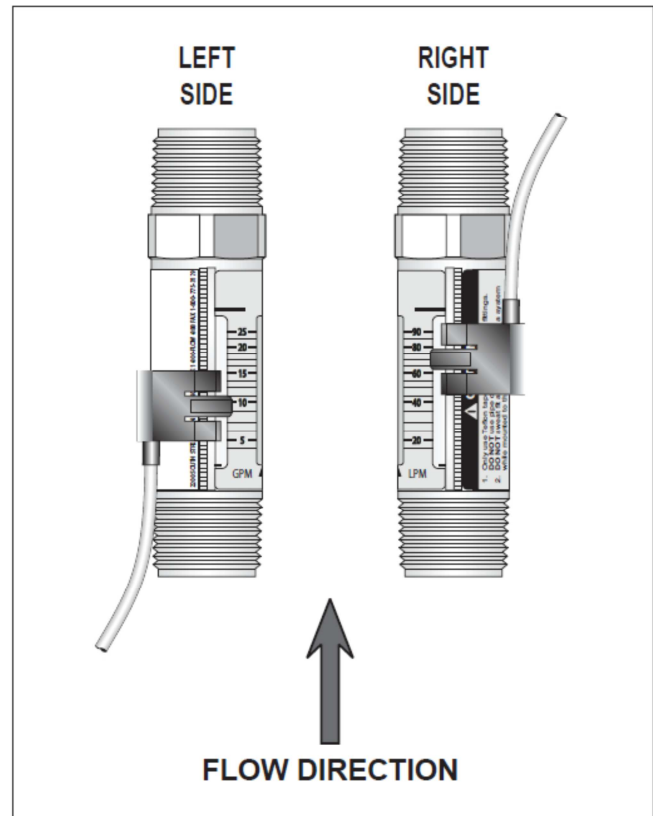

Figure 21. Switch Orientation
1. With the fluid running through the meter, gently move the switch adjustment tab(s) outward until the switch body is free to slide up or down on the serrated rail. See **Figure 21**.
2. Move the switch into position until the switch activates. See **Figure 21**.